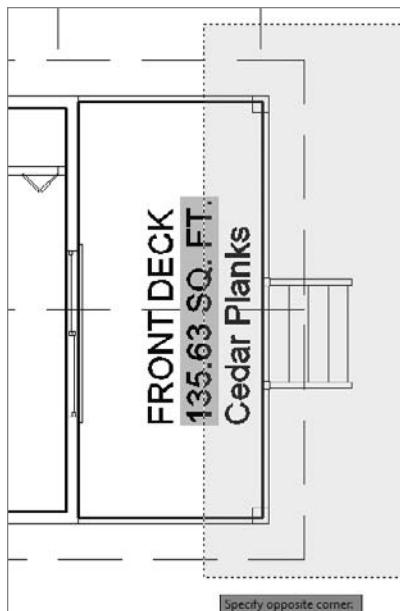

FIGURE 9.36 Select part of the front deck with the STRETCH command.
2. Start the STRETCH command and drag a crossing window enclosing part of the front deck as shown in Figure 9.36.